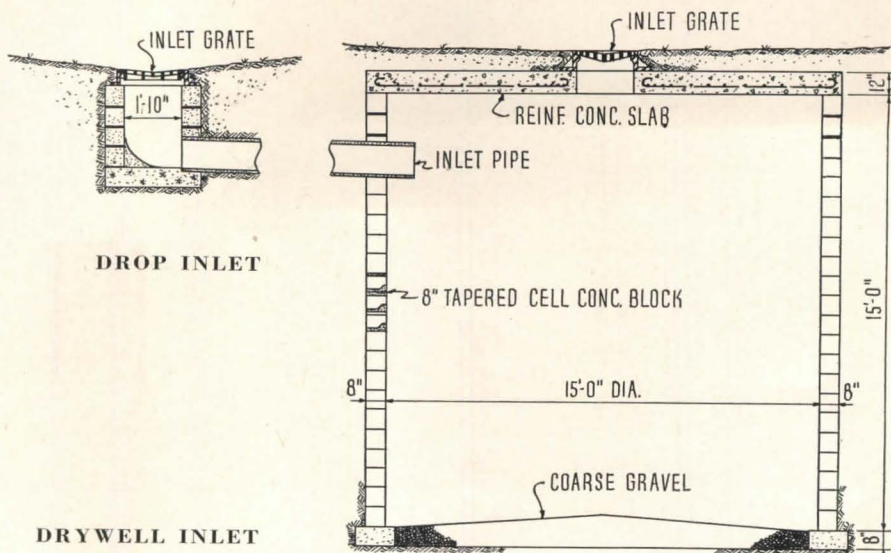

FIG. 1
*Drywells* are used to drain water to the watertable when the surface of the soil (top soil and grass) is relatively impervious but the underlayers relatively absorptive. Figure 1 shows a typical drywell quite successfully used at the Grumman Airport, Bethpage, Long Island, New York.